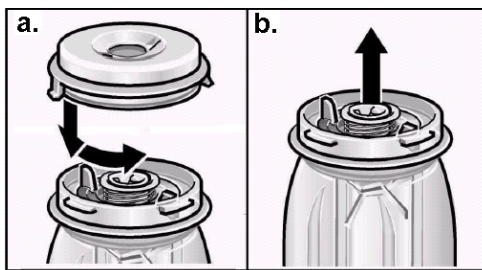

Figure 9.
1. Before using the blender for the first time, it is recommended that the blender jar cover, closure/funnel and blade/base assembly be washed. All components, except the blade/base assembly, are dishwasher safe. Remove the blade/base assembly from the blender, see figure 9.